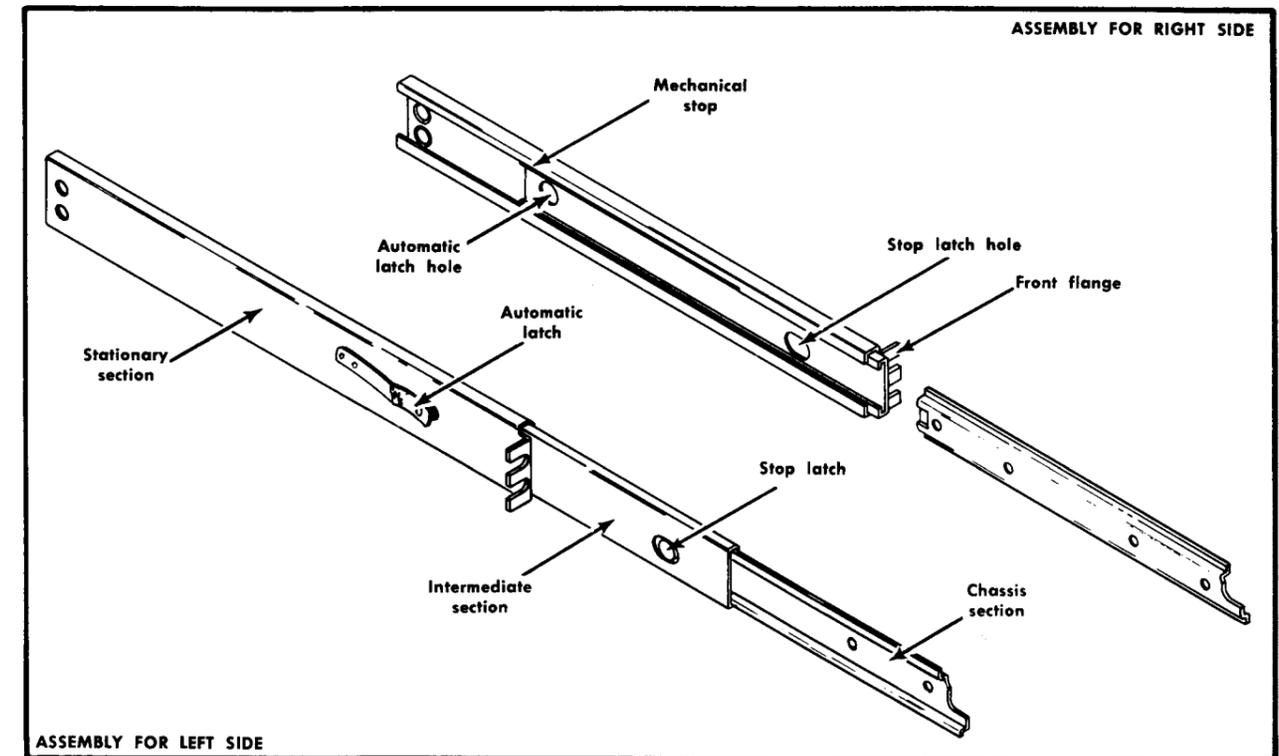
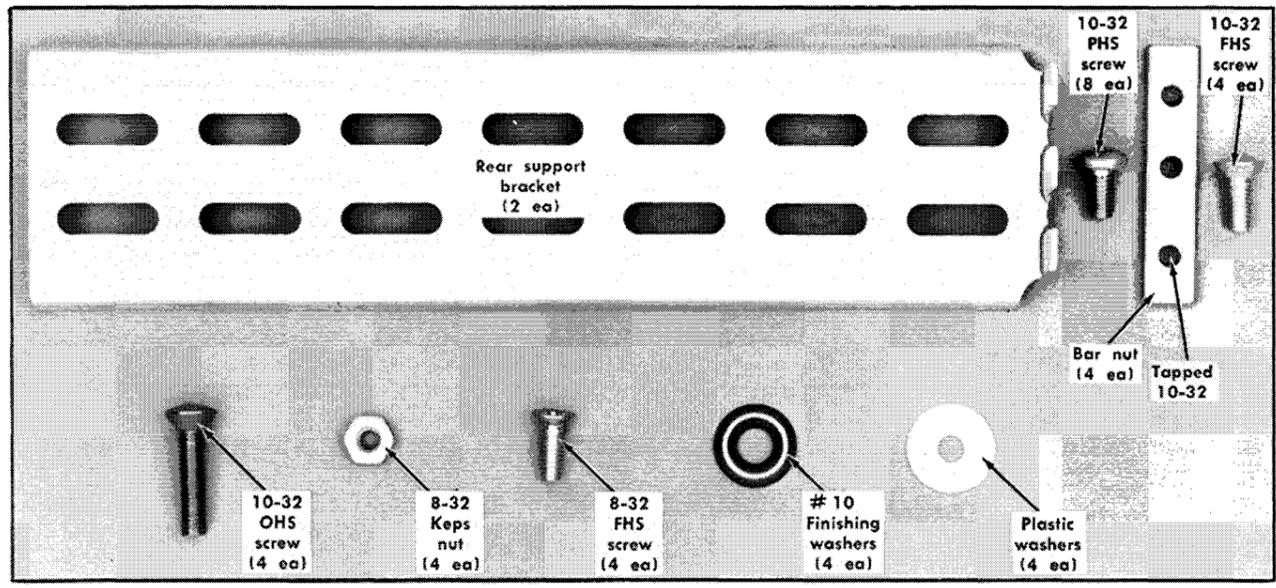

Fig. 10-2. Slide-out track assemblies.
Fig. 10-3. Hardware provided for mounting the instrument in the cabinet rack.
**Installation in the Rack.** The instrument and cabinet are mounted in the rack by means of the slide-out track assembly and mounting hardware. Fig. 10-2 shows the track assembly and Fig. 10-3 shows the mounting hardware. The hardware provided is intended to make the tracks compatible with a variety of cabinet racks and installation methods; not all will be needed for this installation.
The two (left and right) chassis sections attach to the side of the Type R491 cabinet. The stationary sections attach to the front and rear rails of the rack by means of the two slotted support brackets and hardware shown in Fig. 10-3. The intermediate sections of the track assembly slide within the stationary sections of the track assembly and over the chassis section as shown.